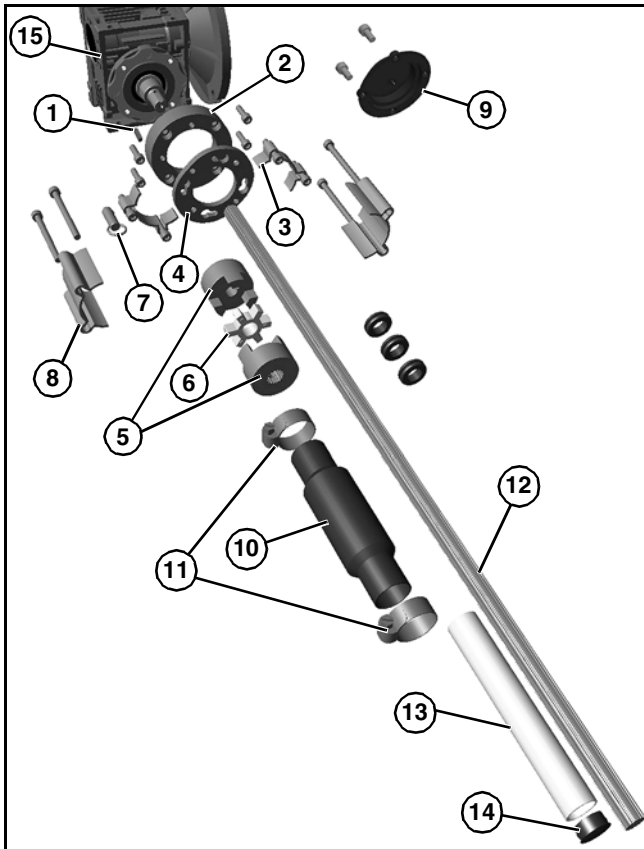

Figure 10
1. Gather installation components (**Figure 10**)